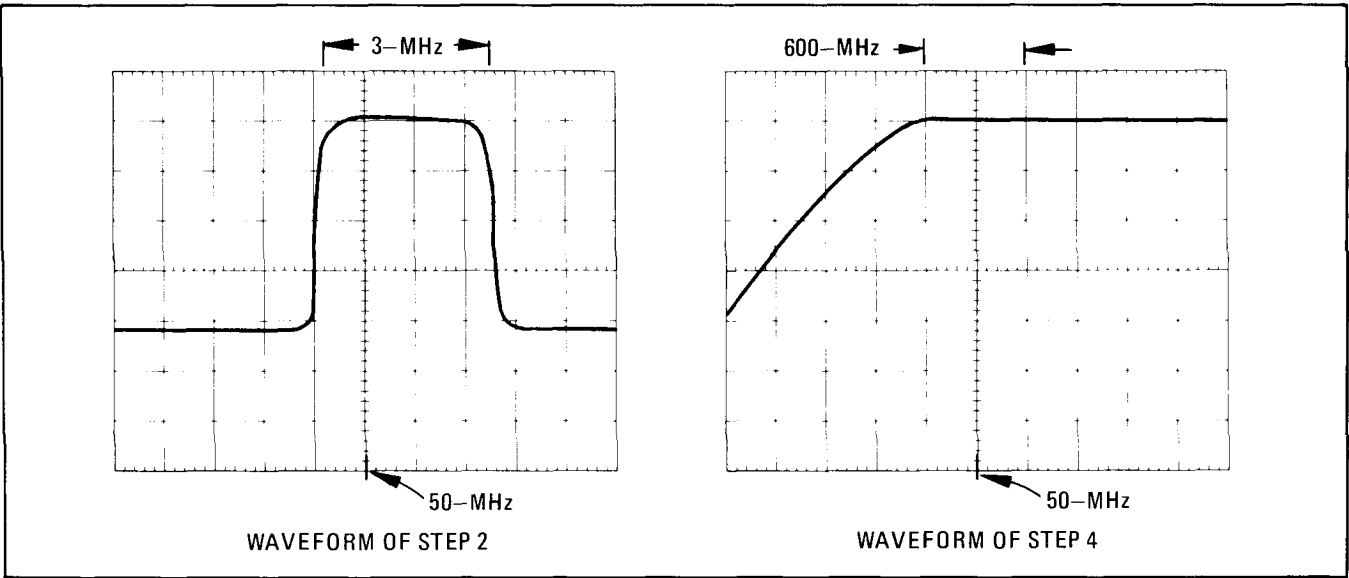

Figure 5-13. 50 MHz Bandpass Display for 10 MHz and 3 MHz Sweeps
POSITION . . . . . (see Figure 5-13)
- 2. Adjust Generator/Sweeper and oscilloscope to display a 10 MHz swept signal centered on 50 MHz. (See Figure 5-13.)
- 4. Select 3 MHz sweep width on the HP 8601A and observe oscilloscope display for a bandpass as shown in Figure 5-13. Repeat Step 3 as required to obtain desired bandpass.